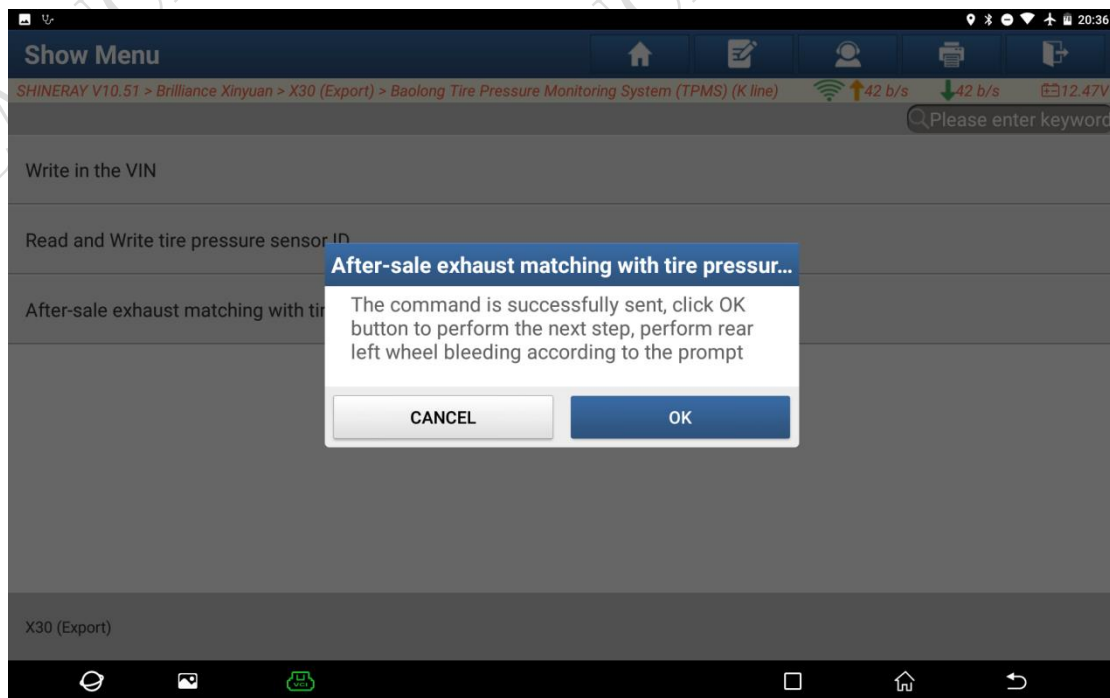

Figure 12
12. Click [OK] to continue, as shown in Figure 12.